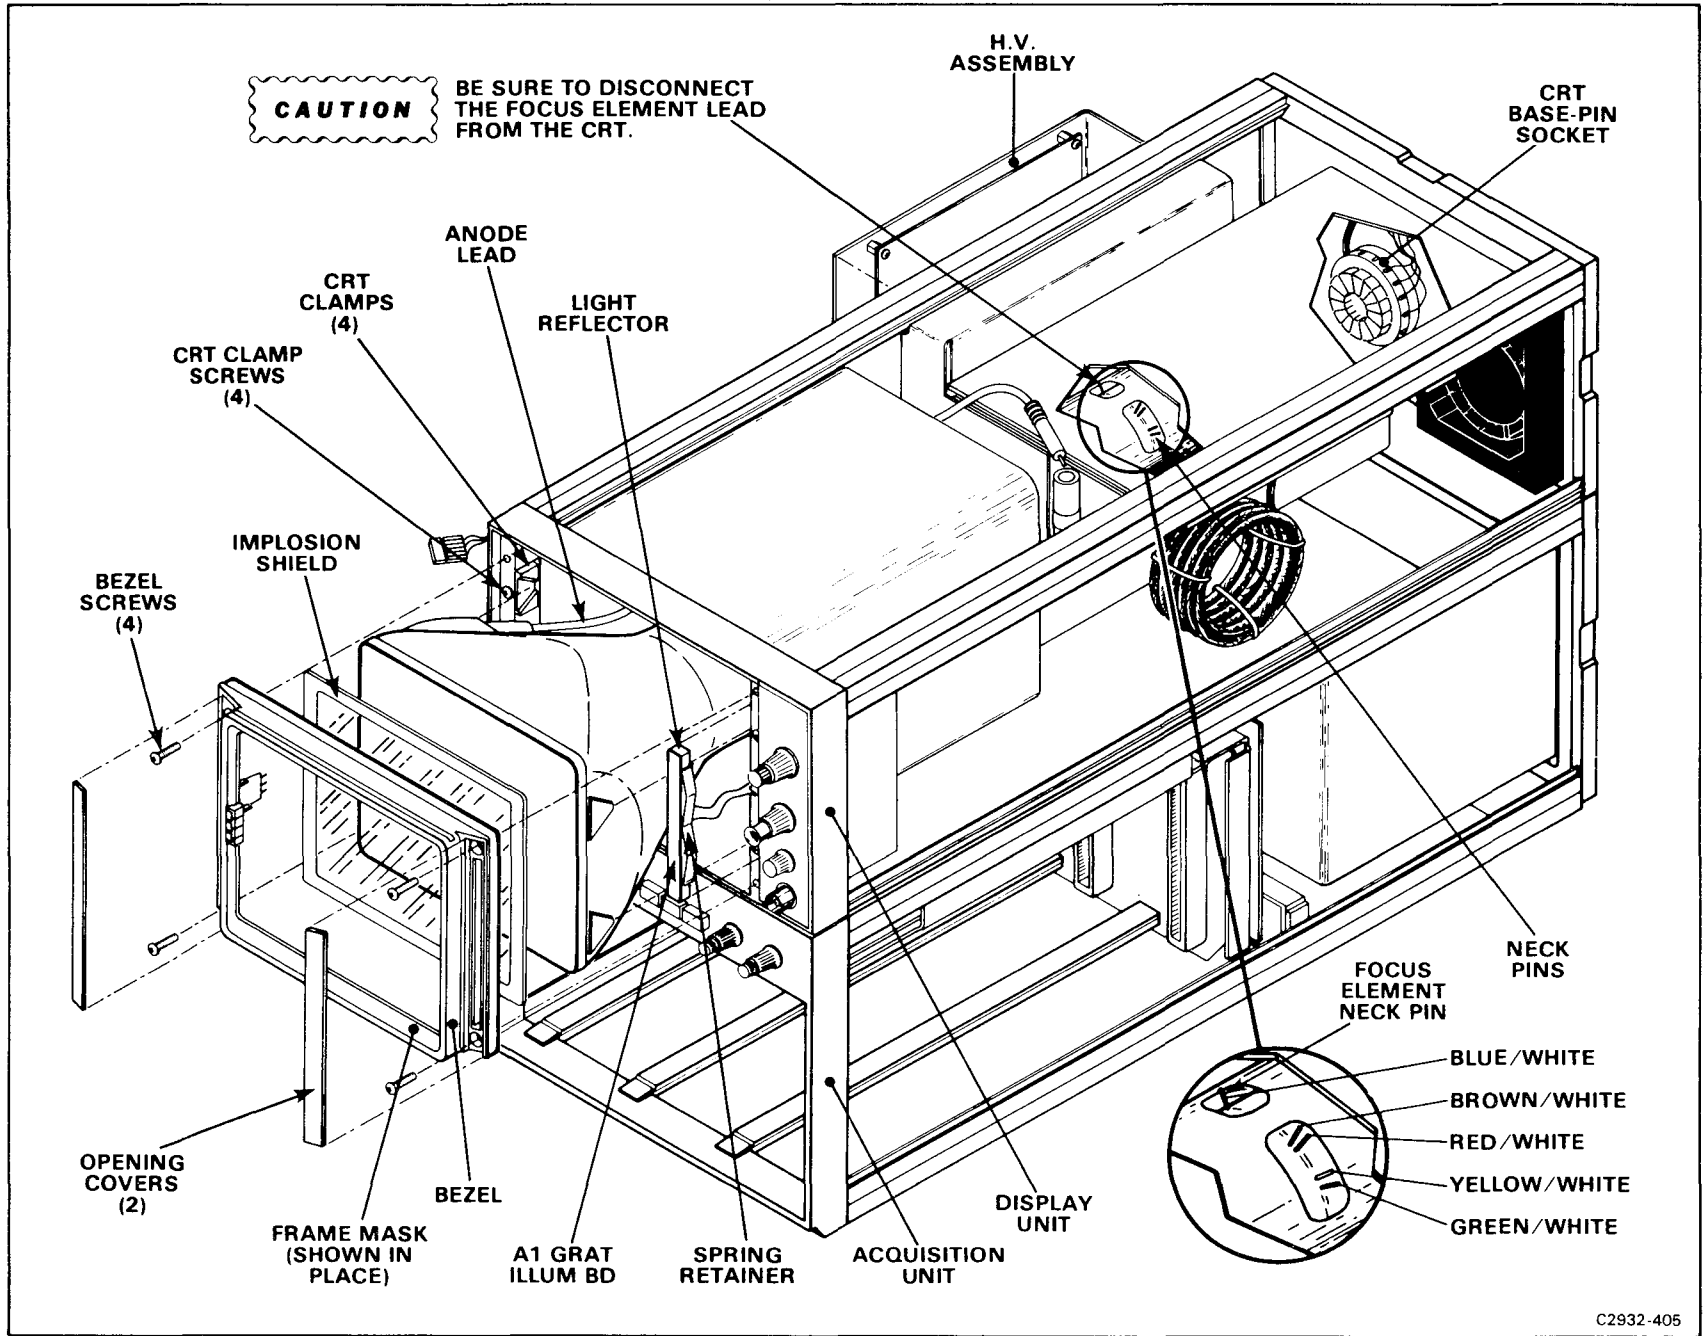

Figure 5-11. Cathode-ray-tube removal and replacement.
Remove the cathode-ray tube (crt) as follows (refer to Fig. 5-11):
Replace the cathode-ray tube (crt) as follows (refer to Fig. 5-11):
5. Remove the spring retainer (see Fig. 5-11).